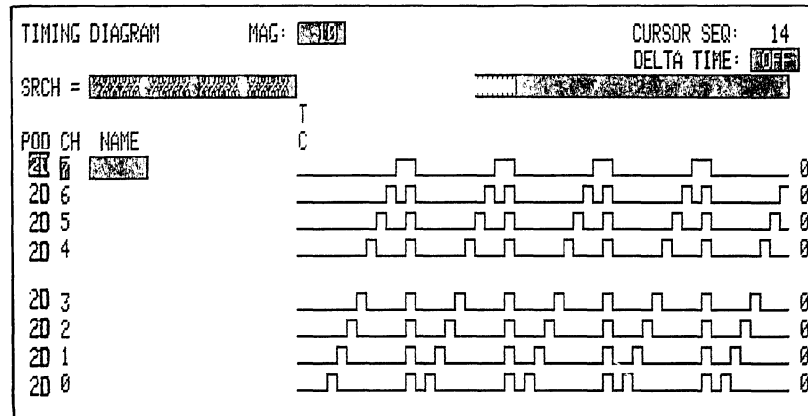

Figure 5-33. 91P32 data output test.
- Set the magnification of the Timing Diagram to 10; this should show a display like Figure 5-33. The actual position of the cursor and trigger will depend on the type of acquisition module used. A 91A08 should trigger on sequence 18, and a 91A32 should trigger on sequence 14.
- The data acquired should match Figure 5-33.
(6) Verifying Pod Connector C
6. Enter the Timing Diagram menu. The display should again look like Figure 5-33.
10. The data acquired should match Figure 5-33 again.
10. The data acquired should match Figure 5-33.